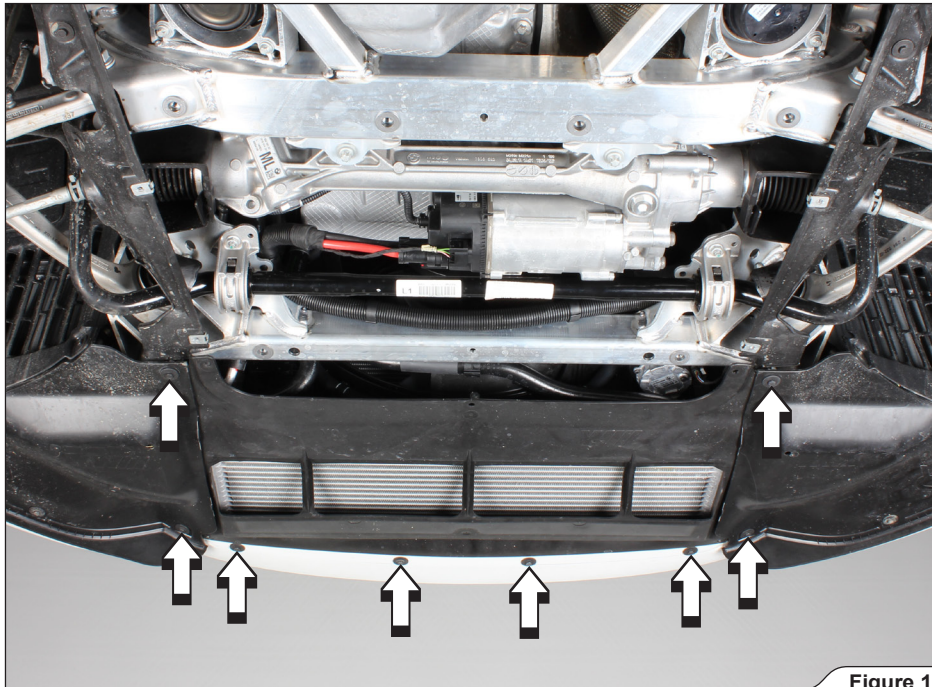

Figure 1
1. Unscrew the marked bolts and carefully remove the radiator protection (Figure 1).